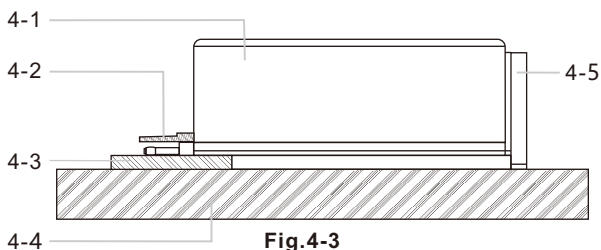

Fig.4-3
- J.** Adjustable leg and sheath of sensor When the measured surface of the part is smaller than the measured surface of the part is smaller than the bottom surface of the instrument, the sheath of sensor and adjustable leg can be used for auxiliary support to complete measurement. (as shown in Figure 4-3)